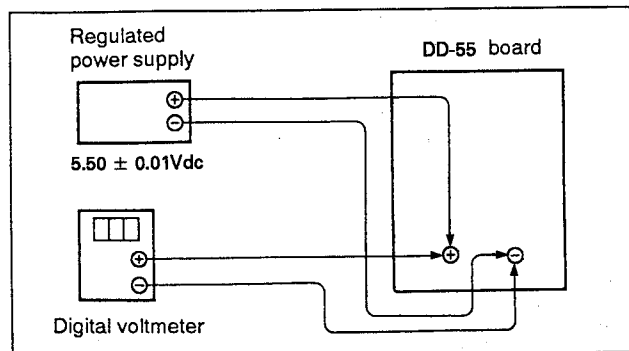

Fig. 10-4.
- 1) Connect the regulated power supply and the digital voltmeter as shown in Fig. 10-4.